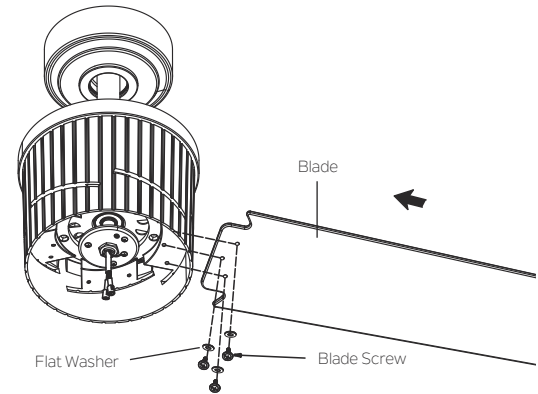

Fig. 18
**Step 1.** Carefully slide the blade through the slot as shown. Securely fasten the five blades with blade screws and flat washers. (Fig. 18)